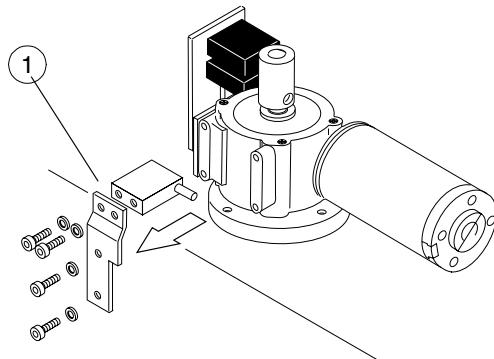

Figure H.29
- Unscrew the sensor screws and remove the sensor from the motor (Fig. H.29, 1)